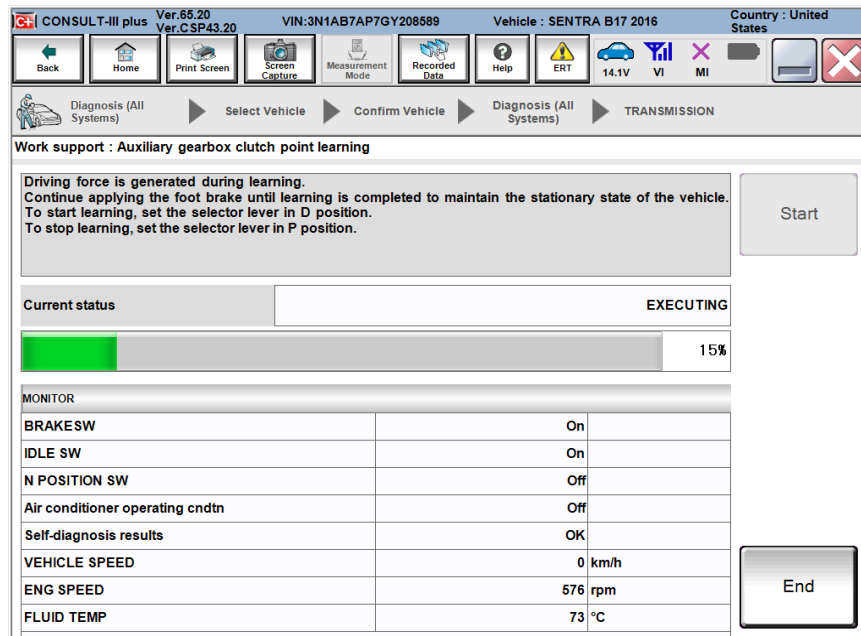

Figure 15
- Figure 15 on the next page will be displayed after shifting into D position.